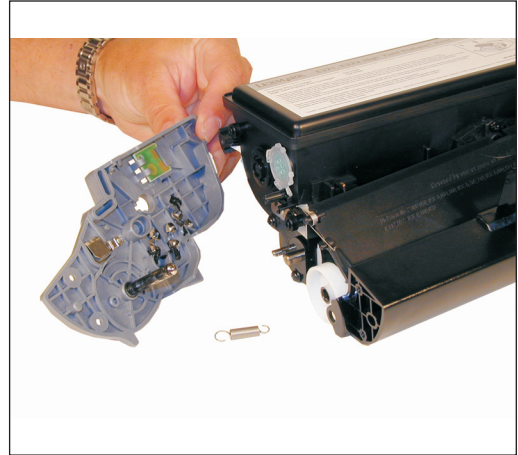

Figure 3
2) Carefully remove the end cap. Note that a spring will come loose and the cartridge will basically fall apart at this point. If you intend to re-use the drum, make sure you are very careful not to damage it. See Figure 3